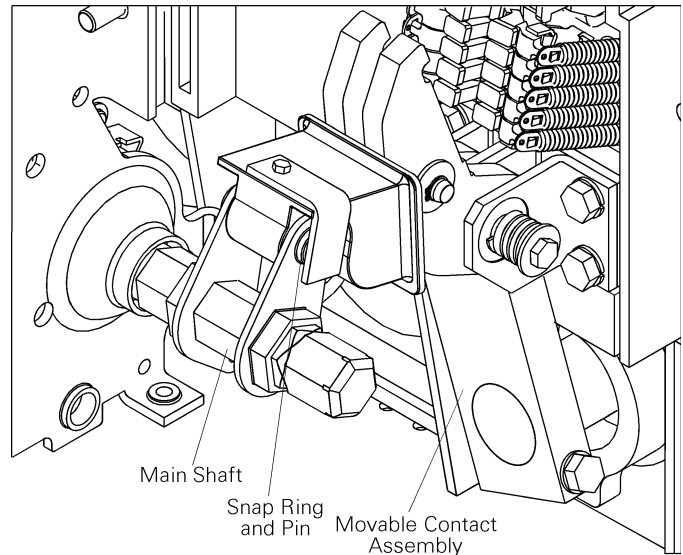

Figure 9. Movable contact connection to the breaker main shaft on EGX08, EGS16, EGF16, EGH16, EGS20, and EGF20 breakers.
5. Remove one of the snap rings and slide out the pin connecting each of the movable contact assemblies to the breaker main shaft, as illustrated in Figure 9. On the two outer poles, first remove the bolt and cover over the outer end of the pin.
5. Reconnect the movable contact assemblies to the breaker main shaft by inserting the connecting pin and reattaching the snap ring, as illustrated in Figure 9. Reattach the cover and bolt on the two outer poles.